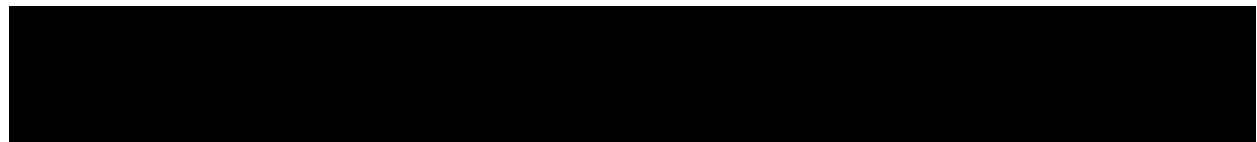

Figure 2.17: Matrix Setup for Circuit in Example 2.8 using the Mesh Matrix Rules
- 4) This rule is followed when cells  $A_{11}$ ,  $A_{22}$ , and  $A_{33}$  are populated in the Matrix in Figure 2.17.
- 5) This rule is followed when cells  $A_{12}$ ,  $A_{13}$ ,  $A_{21}$ ,  $A_{23}$ ,  $A_{31}$ , &  $A_{32}$  are populated in the Matrix in Figure 2.17.
- 6) This rule is followed when cells  $C_{11}$ ,  $C_{21}$ , and  $C_{31}$  are populated in the Matrix in Figure 2.17.